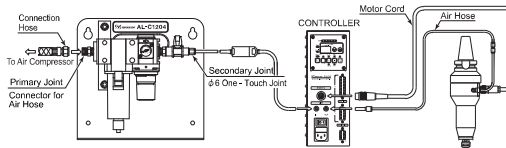

Fig. 24
- Connect the Motor Cord and Air Hose as shown in Fig. 24.